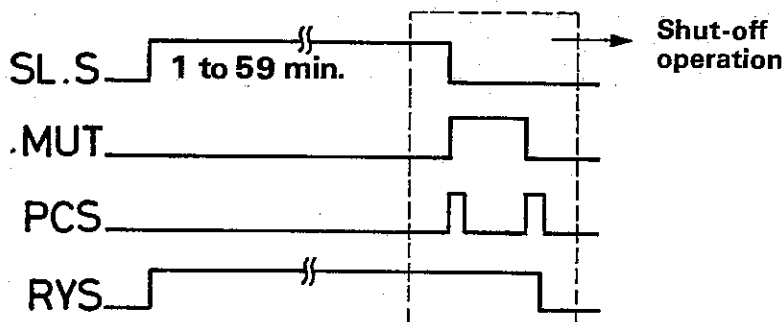

Fig. 10
- b --- Figure 10 shows the time chart for the sleep timer operation. During the sleep operation in which the sleep signal is present, neither the muting signal (MUT) nor the plunger driving signal (PCS) will be generated. Only at the end of the sleep operation will the muting signal be generated. At the same time with the generation of the muting signal, the plunger driving signal will also be generated, which drives the plunger to stop the mechanism. Near the end of the muting operation, the plunger driving signal will be generated again. If, instead of using the sleep timer, the switch S7 is turned ON and OFF, the time chart for the operation will be the same as Fig. 10.